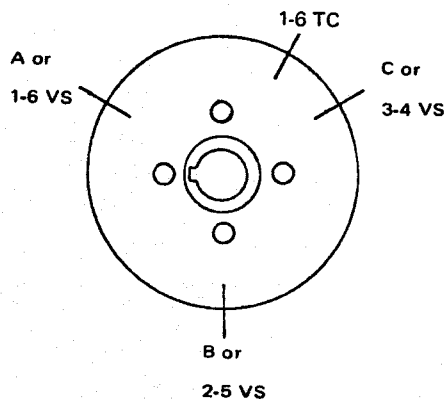

Fig. 2-57, (N114230). Accessory Drive Pulley Markings
1. Bar engine until "A" or 1-6 "VS" mark on pulley, Fig. 2-57, is aligned with pointer on gear case cover. In this position, both valve rocker levers for cylinder No. 5 must be free (valves closed). Injector plunger for cylinder No. 3 must be at top of travel; if not, bar engine 360 deg., realign marks with pointer.